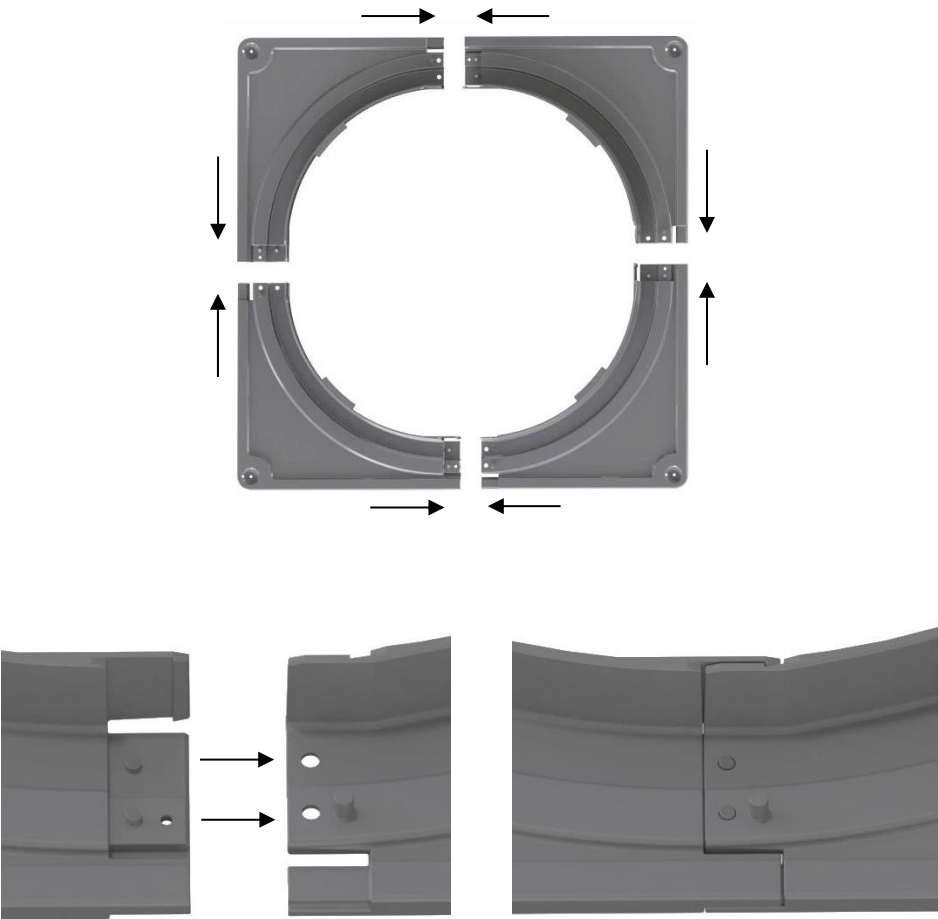

Figure 4: Assembly of base flange
- 1.) Assemble riser flange by interlocking the four sections as shown in Fig. 4 below: